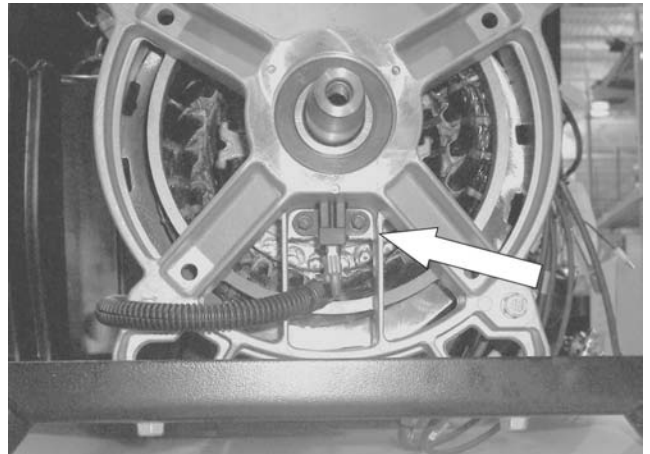

Figure 194.
10. **Remove Brushes:** Using a 7mm socket remove brushes. See Figure 194.